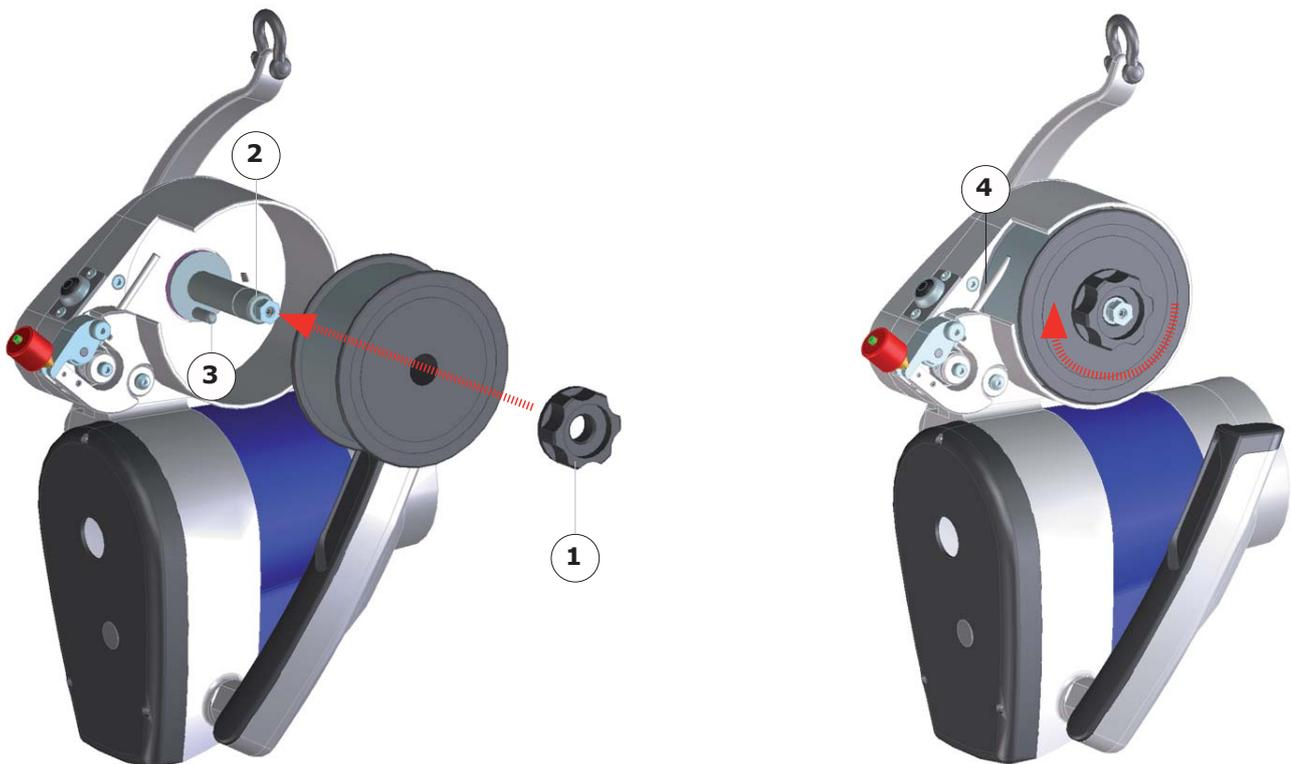

Fig.5.10 - Fitting the wire spool
- Loosen the spool holder clamping knob (Fig.5.10 - 1).
- Place the wire spool on the support (Fig.5.10 - 2) ensuring it is correctly indexed (Fig.5.10 - 3).
- Insert the wire in the internal wire sheath (Fig. 5.10 - 4).